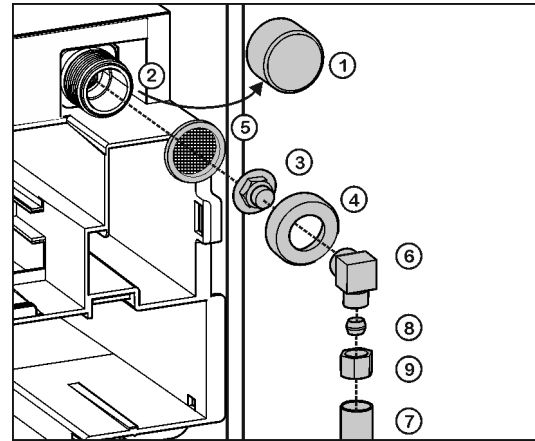

Fig. 10
- ▶ Remove the cap Fig. 10 (1) from the solenoid valve Fig. 10 (2).
- ▶ Insert the coupler Fig. 10 (3) in the union nut Fig. 10 (4).
- ▶ Insert the water filter Fig. 10 (5) with the recess pointing down towards the coupler Fig. 10 (3).
- ▶ Lock the union nut Fig. 10 (4) onto the solenoid valve Fig. 10 (2) and tighten.
- ▶ To turn the water connection 90°, tighten the elbow connector Fig. 10 (6) if necessary.
- ▶ Connect the water supply Fig. 10 (7) (e.g. copper) with the aid of the clamp ring Fig. 10 (8) and nut Fig. 10 (9) to the coupler Fig. 10 (3) or elbow connector Fig. 10 (6).